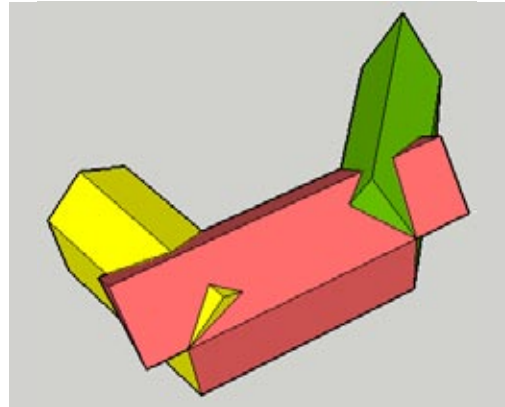

Figure 5-66
4. Select everything, right-click on a selected face, and choose Intersect→Intersect with Model. This creates intersection edges on all roof faces (Figure 5-66).